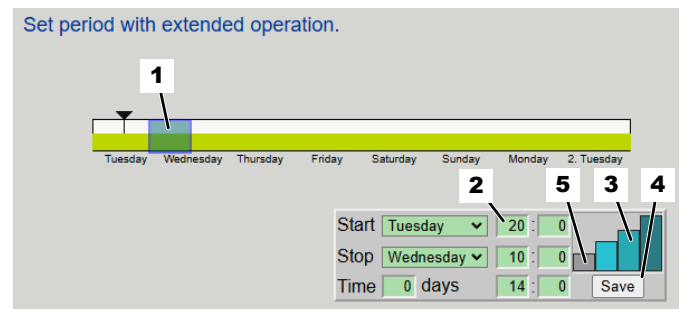

Fig. 27: Set extended operation
The 'Extended operation' ( Fig. 27 ) screen allows you to override the fan speed set in the current weekly programme. Override automatically starts and stops at the times you set here. The maximum override period is 7 days.
2. Click on the white area within the week view ( Fig. 27 /1).
3. Set the start and stop times ( Fig. 27 /2) for extended operation.
4. Select a low, medium or high fan speed ( Fig. 27 /3) by selecting a bar.
5. Click on 'Save' ( Fig. 27 /4).
To end extended operation, click on the grey rectangle ( Fig. 27 /5).